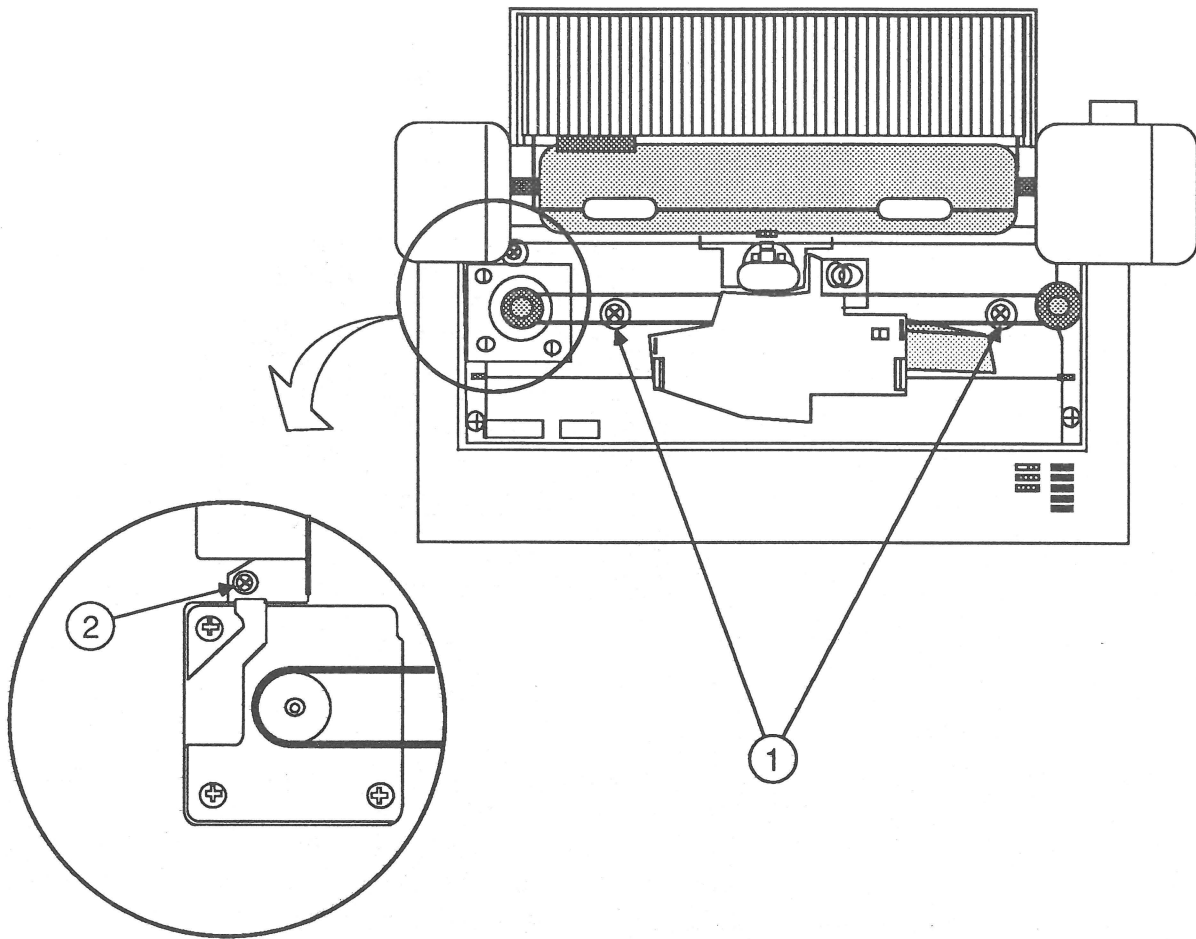

FIGURE 46
6. Turn the printer upright. Carefully move the carrier assembly slightly left of center to give access to the two large screws (Figure 46, #1) that hold the frame to the remainder of the plastic bottom cover. Remove the screws.
7. If there is a screw (Figure 46, #2) between the stepper motor and carrier motor housing, remove it.